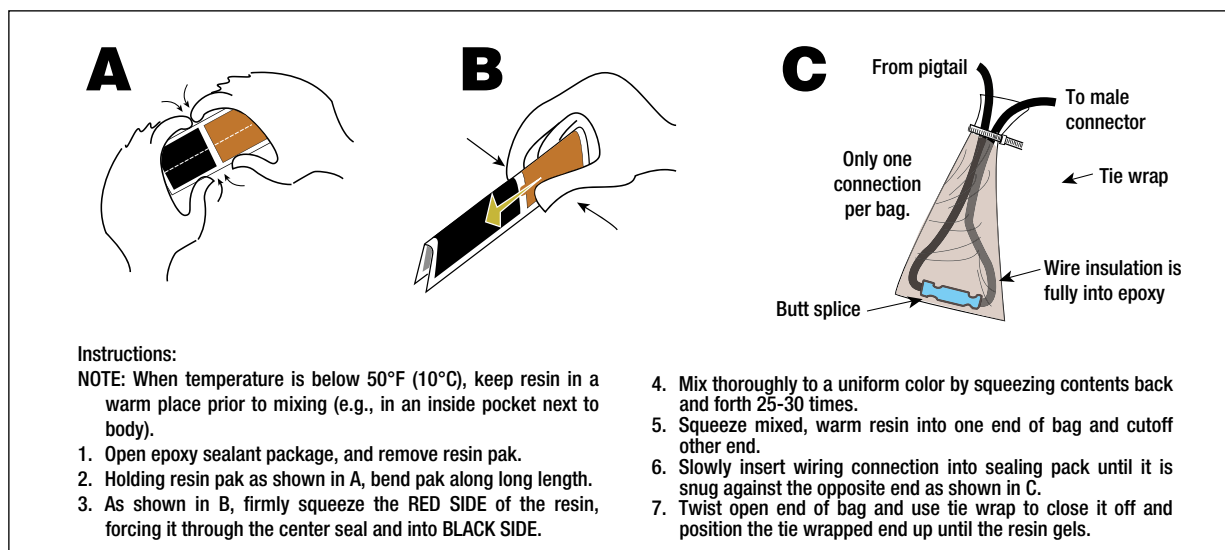

**Figure 13. Attaching Return Line Tubing to Pump**
9. Secure the siphon return line tubing to the column pipe with tie straps. Locate the tie straps approximately 6 inches (152 mm) from manifold, 6 inches from discharge head and in the middle of the tubing (see Figure 13).